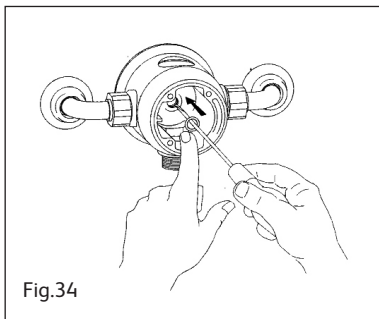

Fig.34
10. The new O-ring may be fitted into position by first sliding it onto the blade of a screwdriver. Hold the tip of the screwdriver into the hot water way and then manoeuvre the O-ring down into position (Fig 34).